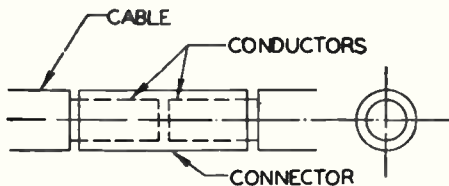

Fig. 6-11
- CC-B Butt type two-way cable connector. Fig. 6-11